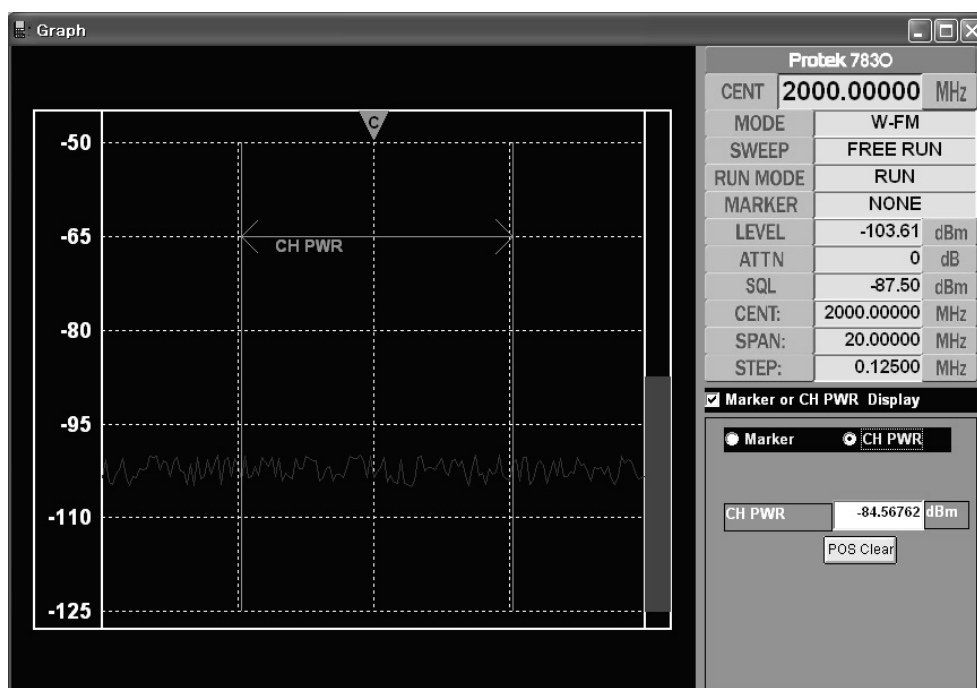

Figure 3.4. Measuring channel power
- 3) Refer the Figure 3.4. measuring channel power or the article 4.7.1 the window of graph (16)~(22)